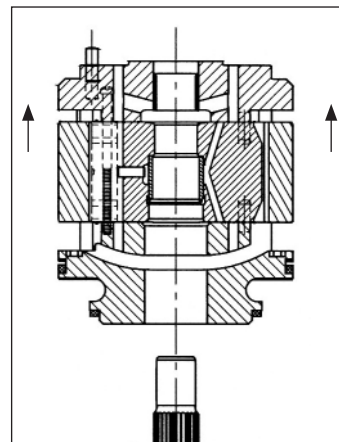

Figure 65
5. Remove cartridge from shaft (Fig. 65).